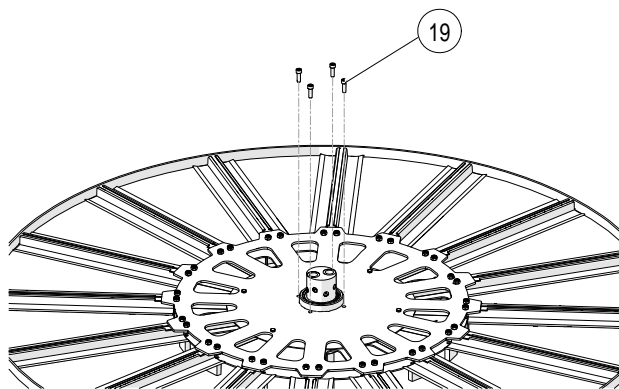

Fig. 7: Removing the 4 Cylindrical Screws
- Tighten the 4 central cylindrical screws (see Fig. 7).